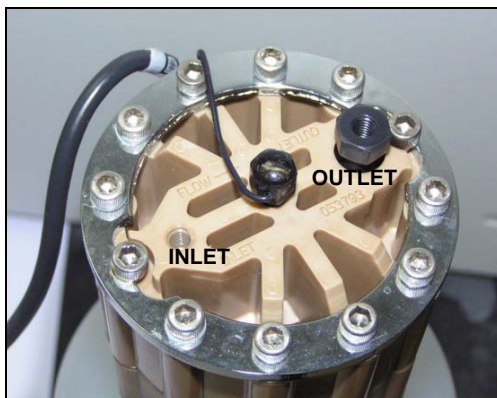

Figure 54. EluGen Cartridge Fitting Plugs
6. Orient the EluGen cartridge with the fittings facing up and remove the plugs from the cartridge **INLET** and **OUTLET** fittings (see Figure 54).